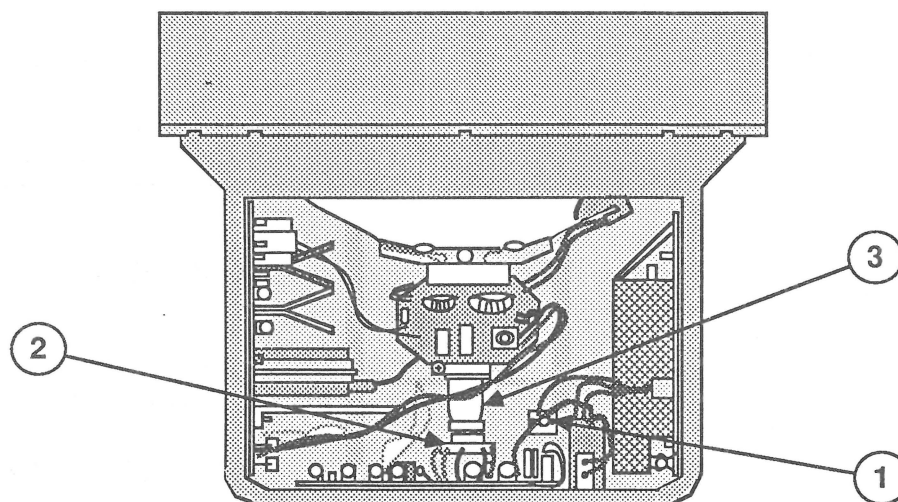

FIGURE 10
6. Using the adjustable wrench, remove the hex nut and washer (Figure 10, #1) that secure the green grounding wire to the metal post on the floor of the monitor. Lift the grounding wire off the metal post.
7. Pull the CRT socket (Figure 10, #2) off the neck of the CRT (Figure 10, #3).